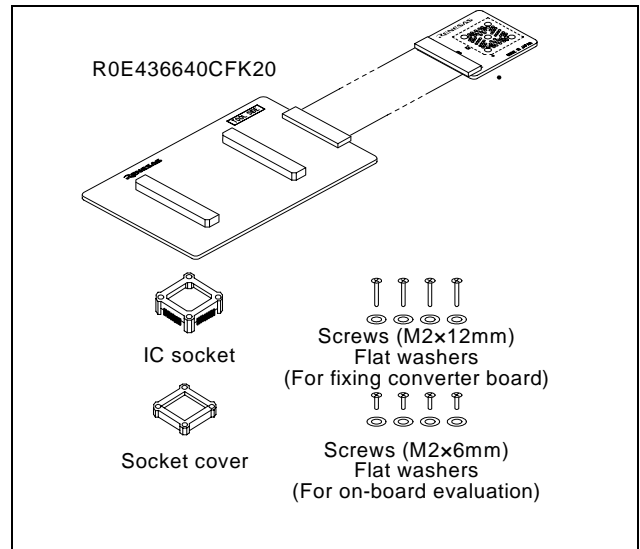

Figure 1 Package components of the R0E436640CFK20
2. Package Components (See Figure 1)